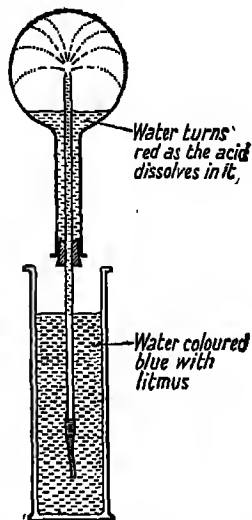

FIG. 118. To show the great solubility of hydrochloric acid gas in water.
**Expt. 176.** Fill a dry, round-bottomed flask with the gas by downward delivery. Have ready a cork which exactly fits the flask, and through which passes a long glass tube drawn out to a nozzle at the end which goes into the flask, and fitted with an india-rubber tube and clip at the other end (Fig. 118). Before fitting the tube to the flask, fill the tube with water by allowing water to flow through it from the clip end, and by applying the clip as the water is still flowing. Fit the cork to the flask full of hydrogen chloride. Place the clip end of the tube in water coloured with blue litmus solution. Release the clip while it is under water.